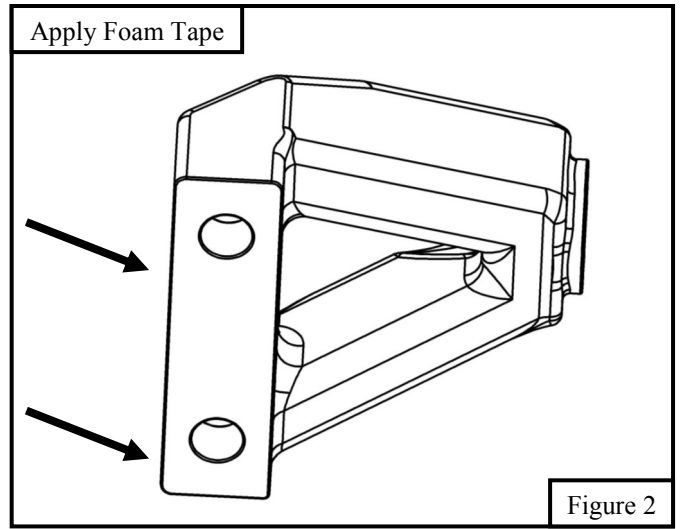

Figure 2
3. Locate the supplied foam tape (Item 5) and trim enough to cover the bottom of the mounting bracket (Item 1/2). Place the trimmed tape on the bracket's mounting surface. Refer to **Figure 2**.